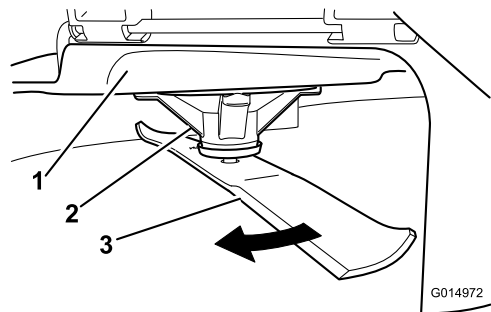

Figure 93
2. While wearing thickly padded gloves, or other adequate hand protection, slowly rotate the blade into a position that allows you to measure the distance between the cutting edge and the level surface the machine is on (Figure 93).